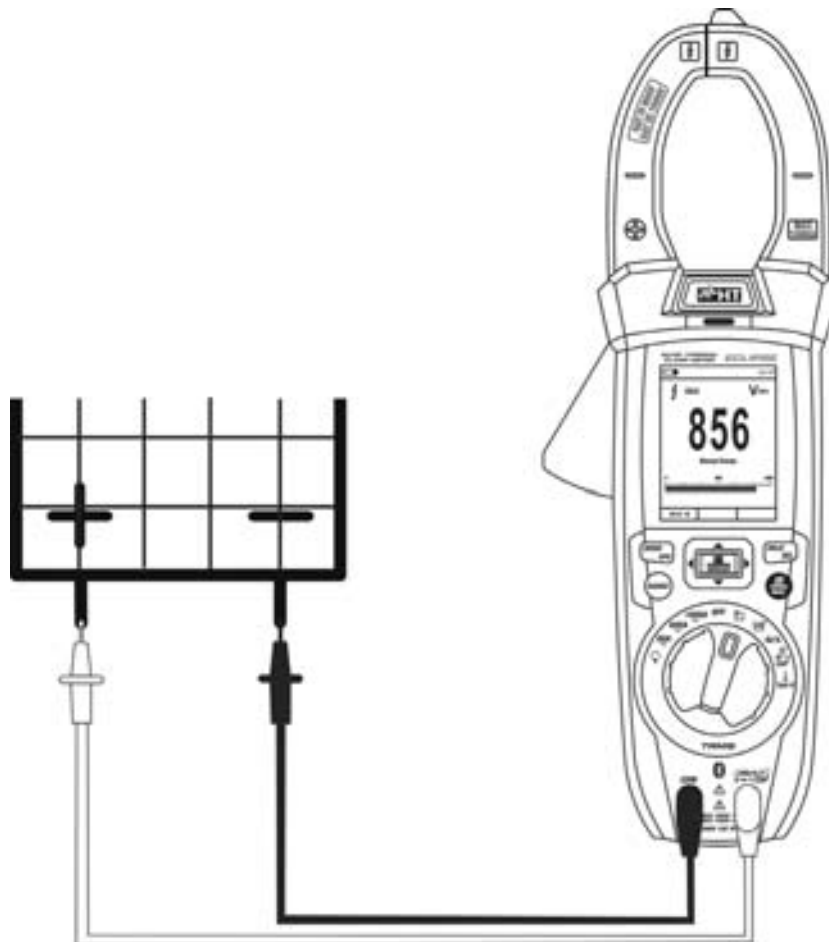

Fig. 23: Use of the instrument for DC, AC+DC voltage measurement
4. Position the red lead and the black lead respectively in the spots with positive and negative potential of the circuit to be measured (see Fig. 23). The display shows the value of voltage.
6. When symbol “-” appears on the instrument's display, it means that voltage has the opposite direction with respect to the connection in Fig. 23.